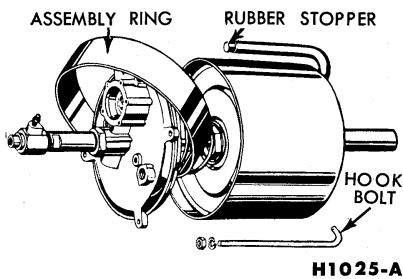

FIG. 37—Assembly Ring Removal
16. Insert a rubber stopper into the control tube (Fig. 37).
19. With the rubber stopper still in the control line tube, slide the assembly ring over the end plate, as shown in Fig. 37, and remove the rubber stopper from the control line.